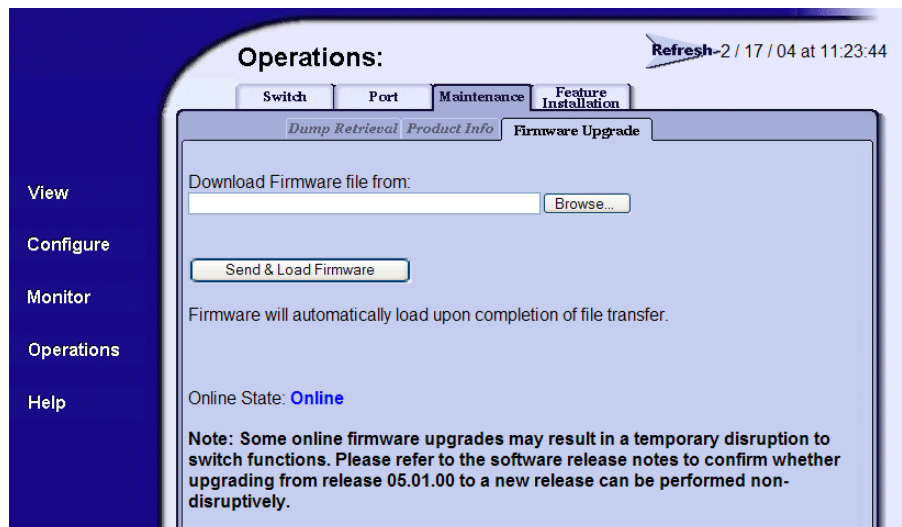

Figure 53: Upgrading firmware
1. Choose the **Maintenance** tab from the **Operations** page, and then choose the **Firmware Upgrade** tab to upload and upgrade firmware. The **Firmware Upgrade** tab view displays (Figure 53).